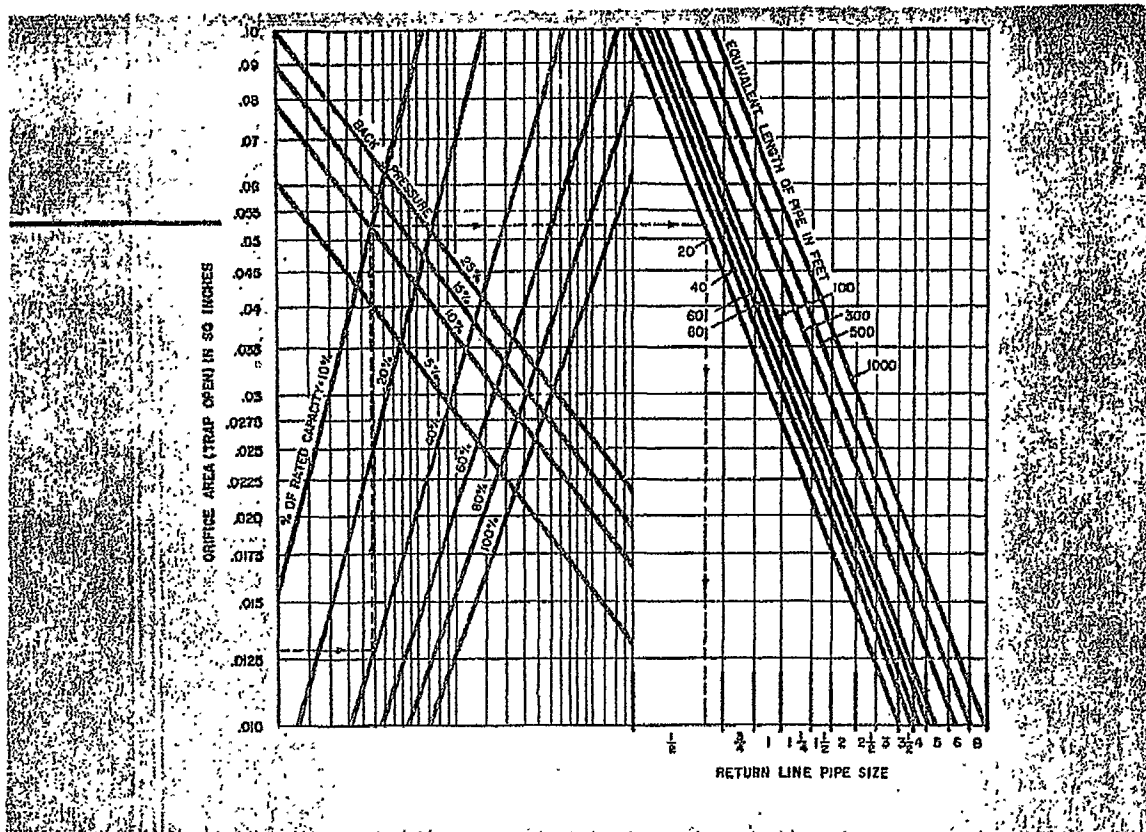

Fig. 3. Chart for finding the return line size. All return lines must be kept large enough to prevent excessive back pressure
18. Keep return line piping large enough to prevent excessive back pressure. Use Fig. 3 to determine return line size. Enter chart from left at orifice area. Where this horizontal line intersects the "per cent of rated capacity" line draw a vertical line upward to the appropriate back pressure line. From this intersection draw a horizontal line to the right to the appropriate "length of pipe" line. Draw a line vertically downward to determine return line size. For more than one trap, work each one through the chart and add areas to get over-all pipe size. The "percent of rated capacity" line is determined by dividing 100 per cent by the factor of safety used.
Check valves are important, preventing the discharge from one trap backing up into that of another. When condensate from a trap must be lifted, a check valve should also be used, as in Fig. 3. While manufacturers recommend individual trapping of equipment for most units, check valves should be selected where individual trapping is not possible or group trapping must be used. Install a check valve in the discharge line from each section of the steam-condensing equipment, ahead of the trap.